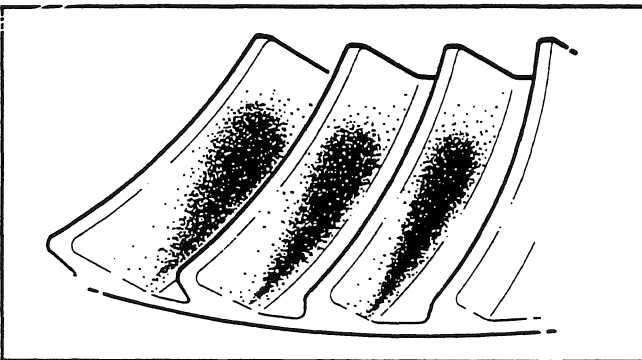
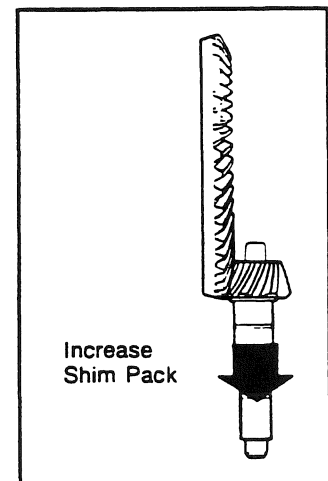

Fig. 82
Fig. 85
c) To correct a low contact pattern (see Fig. 82), increase the shim pack thickness under the bearing cage. When you increase the shim pack thickness, the drive pinion moves away from the ring gear (see Fig. 85).